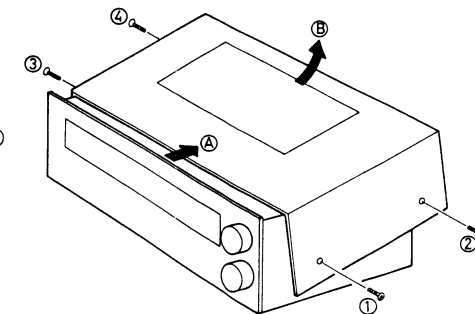

Fig. 8
- Remove the four cabinet mounting screws (nos ①~④ screws in fig. 8).
- Sliding it toward (A) direction and lifting it upward (B) direction as shown in fig. 8.